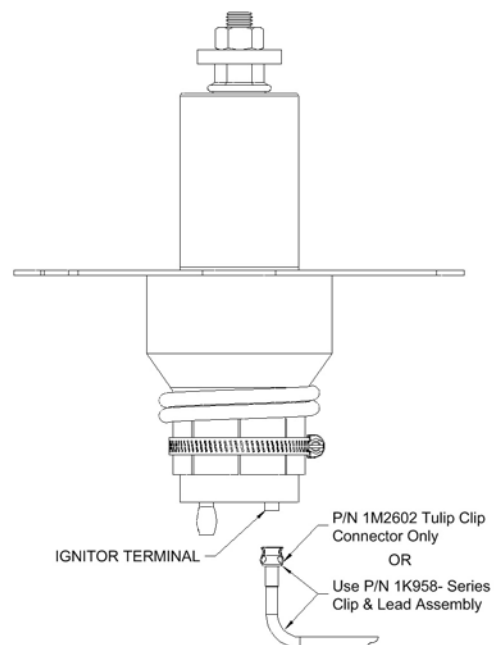

Fig. 3
8. Connect the ignitor terminal to the ignitor, as shown in Fig. 3. **DO NOT APPLY SIDEWAYS FORCE TO THE IGNITOR TERMINAL. DOING SO CAN CAUSE THE GLASS INSULATOR TO CRACK AND THE TUBE WILL LOSE ITS VACUUM AND VOID THE WARRANTY!**